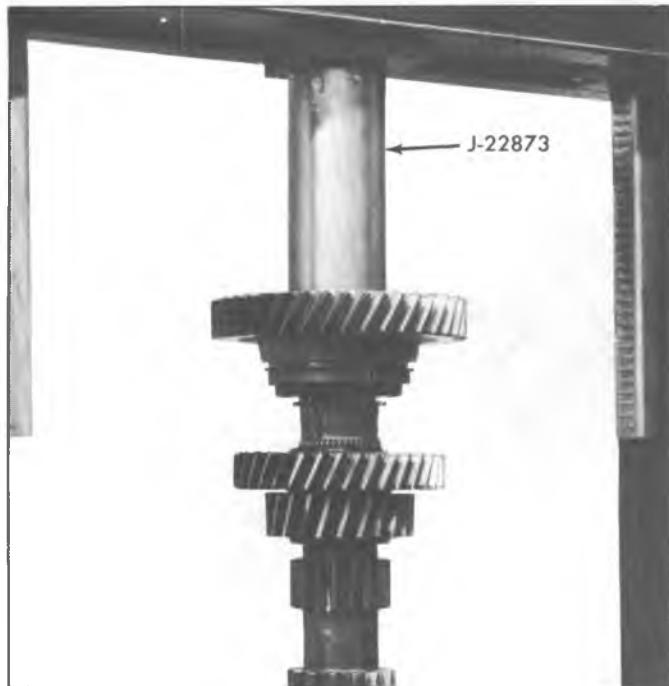

Fig. 7B-22L--Installing Clutch Countergear
5. Install clutch countergear thrust washer and front retaining ring using Tool J-22830 and J-22873 (Fig. 7B-21L).